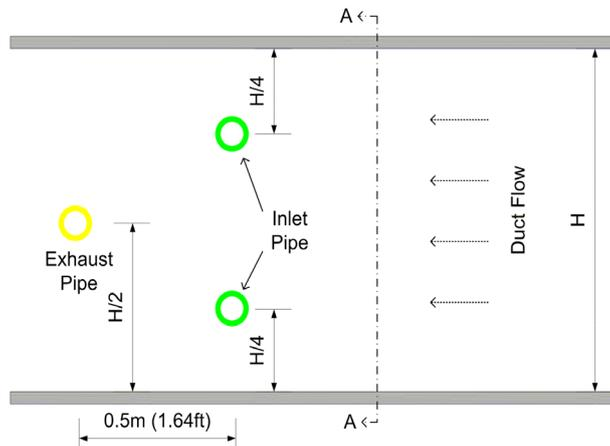

Figure 7: Side view of the inlet and exhaust pipe positions for a large duct.
Large ducts are defined as those with widths of 1 to 2 m (3.28 to 6.56 ft). For these ventilation ducts, it is recommended that the inlet pipe of the smoke detector be in two branches. The figure below (Figure 7) shows a side view of a duct section with the relative insertion points for the inlet and exhaust pipes. The two inlet branches are located at a quarter of the height (H) of the duct with the exhaust pipe inserted mid-height approximately 0.5 m (1.64 ft) downstream of the inlet pipes.